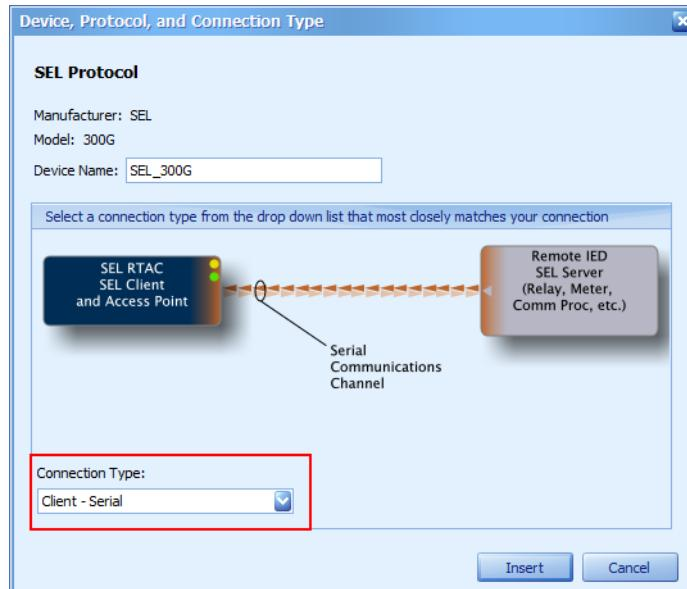

Figure 158 Add an SEL-300G
- Step 9. For a serial connection, set the **Connection Type** to **Client – Serial** in the window that appears, as shown in *Figure 158*. Select **Insert**.